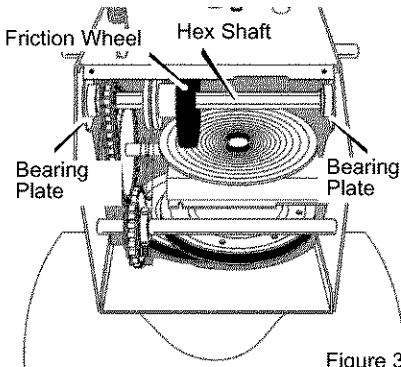

Figure 38
- Remove the four bolts that hold the **bearing plates** on each side of the **hex shaft**. See Figure 38.
- Install the **bearing plate** onto the right side. Make sure the **hex shaft** is engaged with both **bearing plates** and that the washers and retaining ring are installed in the original position. See Figure 38.